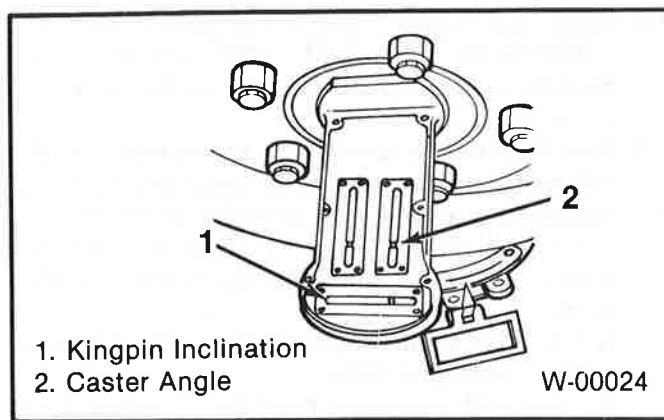

Figure 5. Caster Angle Measurement—Typical
4. Calibrate the scale of the turning radius gage to zero and turn the steering wheel clockwise (counterclockwise for checking caster angle and kingpin inclination on the left side front wheel) until the front wheels are steered 20 degrees from the straight-ahead position (figure 5).